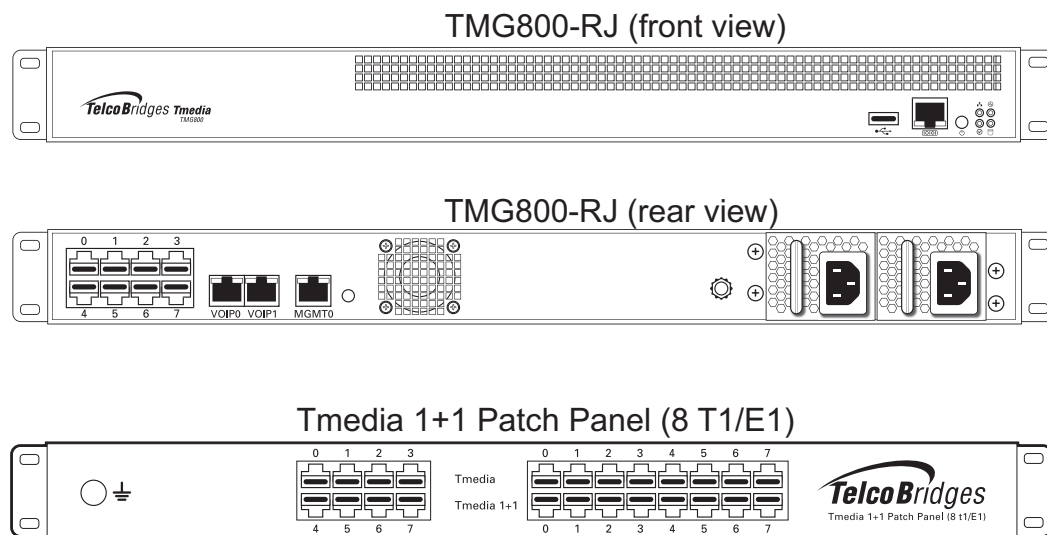

Figure 1.1 TMG800 and TMG800 +1 Front and Rear Views
- Recognizing your Tmedia 1+1 system (shown in figure 1.1)
The installation and setup a Tmedia system (see figure 1.1 on page 2) is described by a series of topics in the following order:
- One (1) TMG800-RJ. See figure 1.1 on page 2.
- One (1) set of mounting brackets and screws, used to mount the TMG800 to a 19" rack.
- One (1) DB-9 to RJ-45 adapter to interface the serial port of your computer with the RJ-45 port of the TMG800.
- Three (3) CAT5 Ethernet straight cables (male-male), 3 meters in length.
- One (1) Important Notice (two-sided document containing pertinent product serial numbers, and other important information).
- One (1) Product Warranty.
- One (1) packing slip.
- One (1) Quick Installation Guide (two-sided document that provides a pictorial view of the equipment setup).
- For AC powered units: One (1) or two (2) AC power cables
- For dual DC powered units: Two (2) DC power cables
- One (1) TMG800+1 unit (TMG800-RJ). See figure 1.1 on page 2.
- One (1) set of mounting brackets and screws, used to mount the TMG800+1 to a 19" rack.
- One (1) DB-9 to RJ-45 adapter, to interface the serial port of your computer with the RJ-45 port of the TMG800.
- One (1) Quick Installation Guide (two-sided document that provides pictorial view of the equipment set-up).
- The associated 1+1 patch panel for your TMG800+1. See figure 1.1 on page 2 for further details.